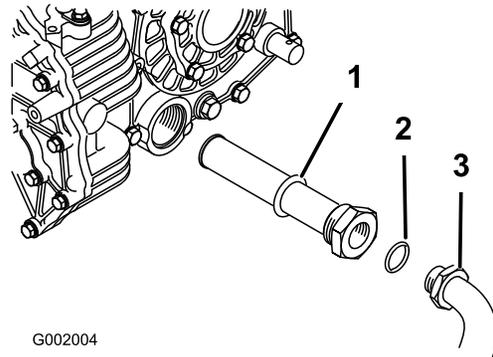

Figure 39
5. Remove the hydraulic hose and 90° fitting (Figure 39).